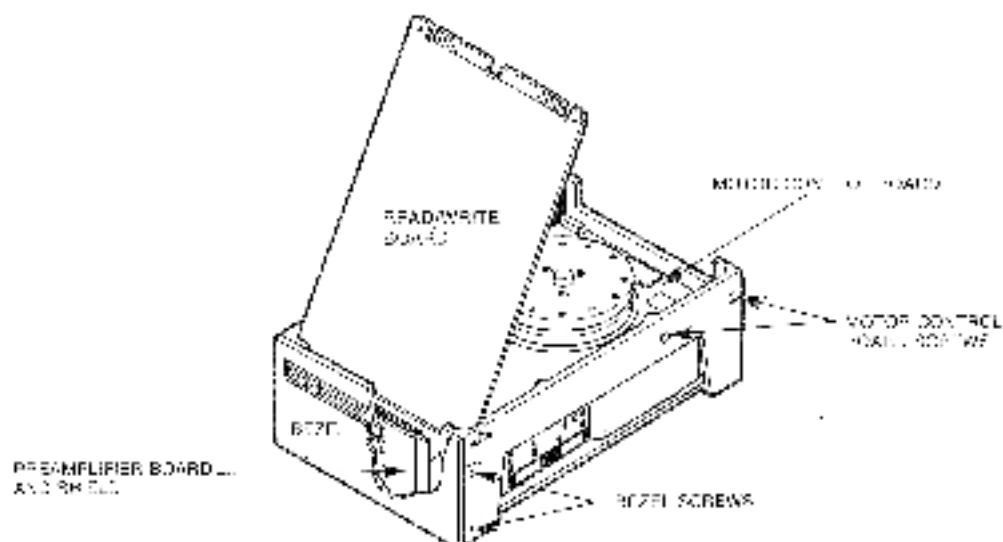

Figure 10-14 RD58 Read/Write Board Removal
1. Remove the four Phillips screws retaining the slide plate and ground clip. Set the slide plate aside (Figure 10-14).